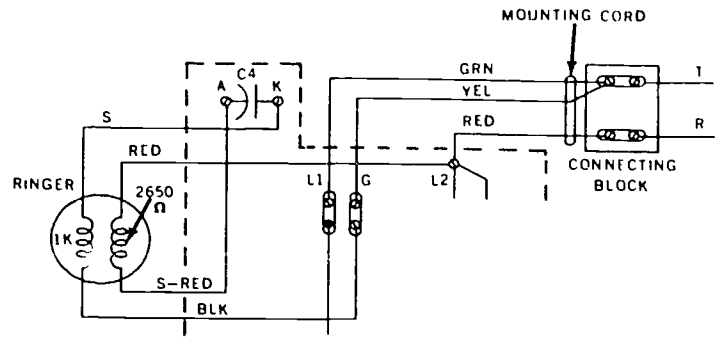

Figure 4-14. Partial telephone ringer circuit schematic diagram.
Alternating Current Circuit Analysis. Figure 4-14 illustrates a partial schematic diagram of a ringer. This ringer is equipped with several coils which enable the ringer to work when alternating current passes through them. How is this action possible? The information in the following paragraphs provides the answer to this question.
It appears that the circuit of figure 4-14 has two unknown factors: (1) the applied voltage and (2) the current. A little consideration, though, should reveal that Air Force telephone systems use a ringing current from signaling. Generally this AC has a potential of 90 volts at 20 cycles per second. Thus, by knowing the applied voltage and the resistance, we can determine the circuit current using Ohm's law.
- ___ 1. The coils of the ringer in figure 4-14 are parallel connected.
- ___ 3. Assuming 90 volts for the 1000-ohm ringer winding in text figure 4-14, the current is approximately 9 amperes.